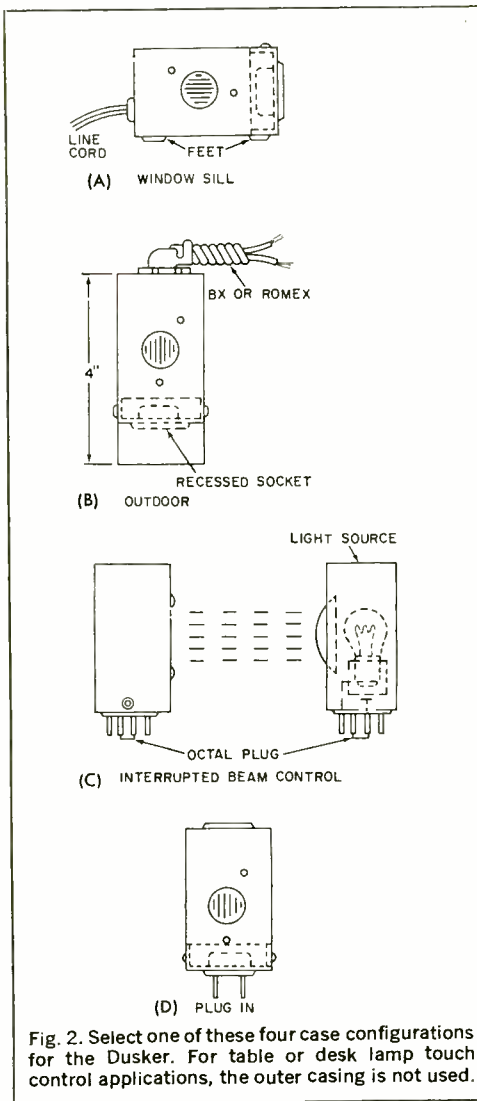

Fig. 2. Select one of these four case configurations for the Dusker. For table or desk lamp touch control applications, the outer casing is not used.
**Construction Pointers.** Li'l Dusker can be encased for mounting on a windowsill or anywhere outdoors, and can be plugged into a standard wall receptacle or octal socket. In Fig. 2(A), the Dusker has its own line cord and is mounted on a windowsill where it can “look” outside. For general outdoor use, BX, ROMEX, or other approved wiring can be brought in through the top of the unit. To make the Dusker weatherproof, the outlet can be recessed and the entire unit mounted as shown in Fig. 2(B) in a sheltered area.